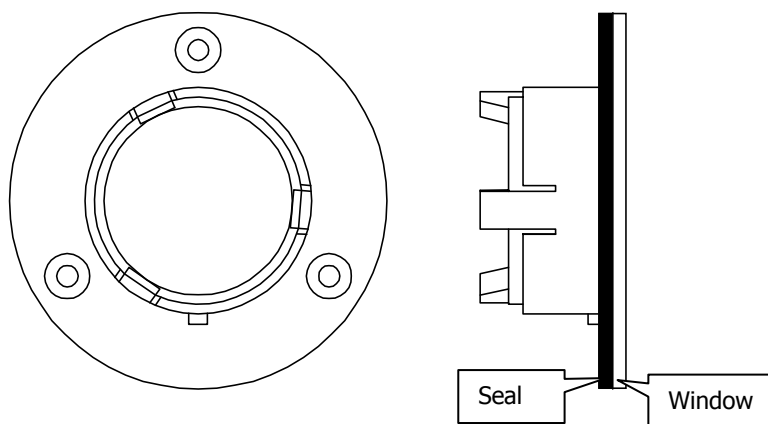

Figure 45 Seal fitted to window
2. Ensure the seal is fitted to the window and is correctly seated (Figure 45).